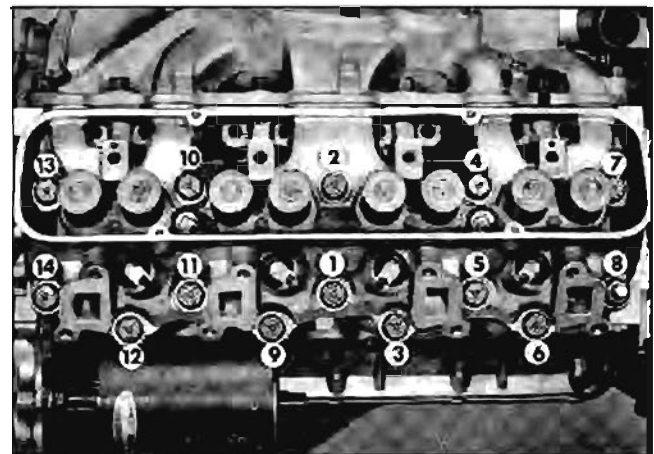

Fig. 6-91 Cylinder Head Bolt Tightening Sequence
6. Tighten head bolts a little at a time until snug then using Fig. 6-91 as a sequence guide torque to 50-55 lb. ft. Do not overtighten.